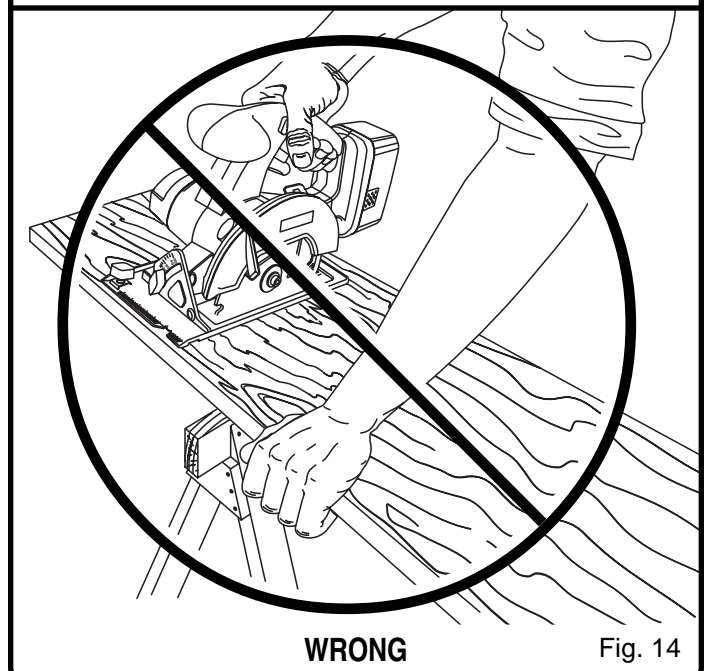

Fig. 14
**Never use your saw as shown in figure 14.**